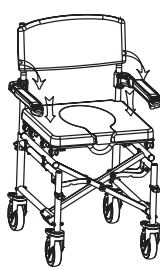

Fig.16
- Place the seat on the wheelchair frame and press down to fix its position, then add the cover (Fig.16);